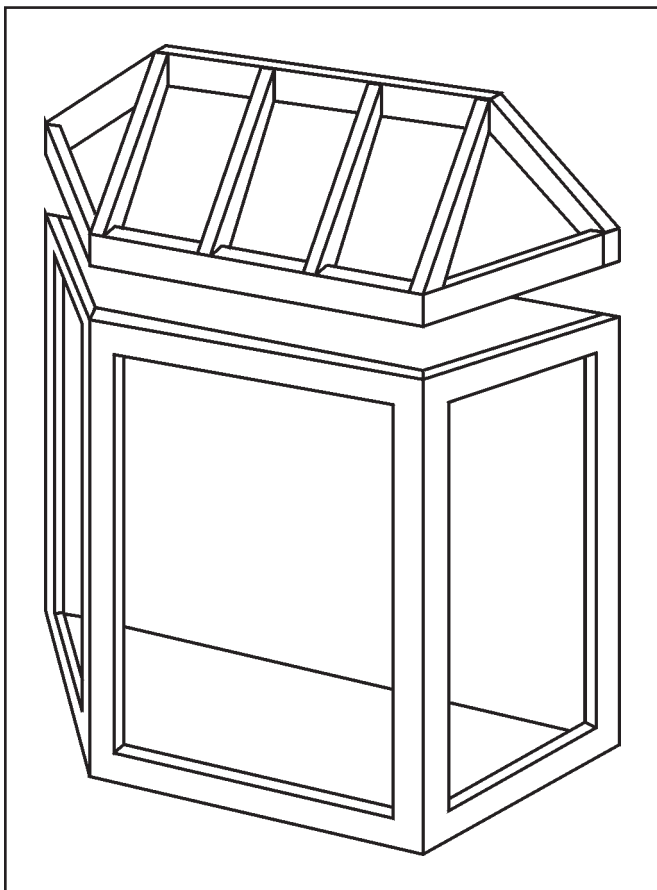

Figure 17-10 Framing for Roof Structure
- The roof outline should be the shape of a trapezoid (see *Figure 17-10*).
1. At each end of the window unit, attach an end rafter to the wall along the angled edge of the cutout (see Figure 17-10).
2. Cut a hip rafter to extend from the outer corner of the window unit, where the support strap is attached, to the top of the hip (see Figure 17-10).